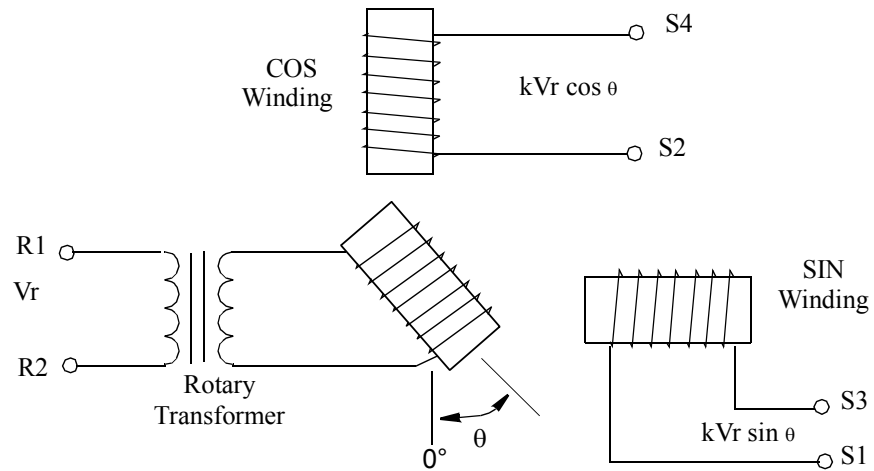

Figure 2-4 Brushless Resolver Control Transformer
The connection arrangement of a brushless resolver control transformer is illustrated below in **Figure 2-4**.
- θ is the rotor angle relative to the reference position shown in **Figure 2-4**.